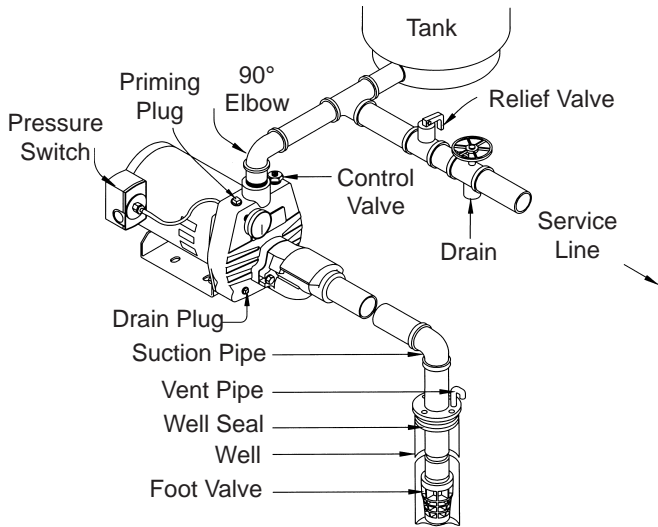

Fig. 3a SHALLOW WELL (WITH FOOT VALVE)
- d) **Service Line:** The service line should be connected as shown in Fig. 3a, b, c or d. The size of the service line required is governed entirely by the amount of water needed and the length of the pipe. The pipe selected should be large enough so that the friction loss (determined from Table 3, Friction Loss Chart) will never exceed 20 ft. (6m) head.